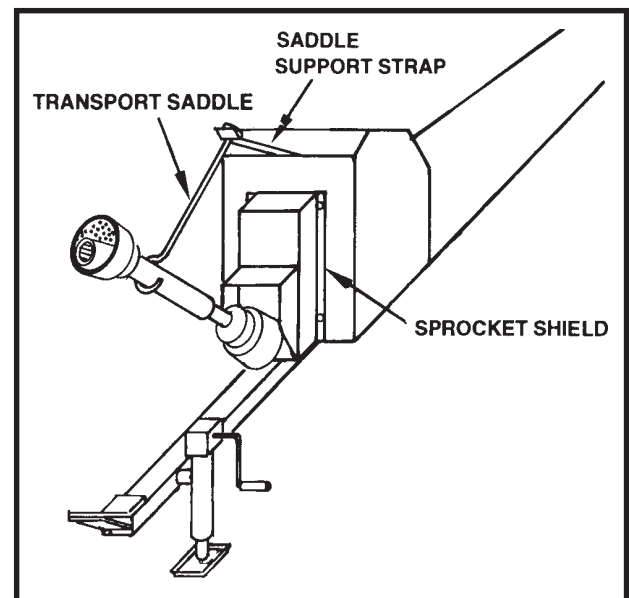

Figure No. 22
5. Slide PTO transport saddle through support strap on boot and rest PTO driveline in it until connected to tractor (see **Figure No. 22**).